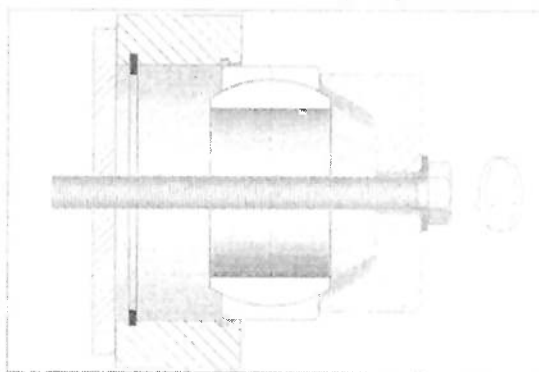

Fig. 5 - Special fitting device
- Larger bearings with steel/steel sliding contact surfaces must be fitted using special fitting tools (Figure 5)